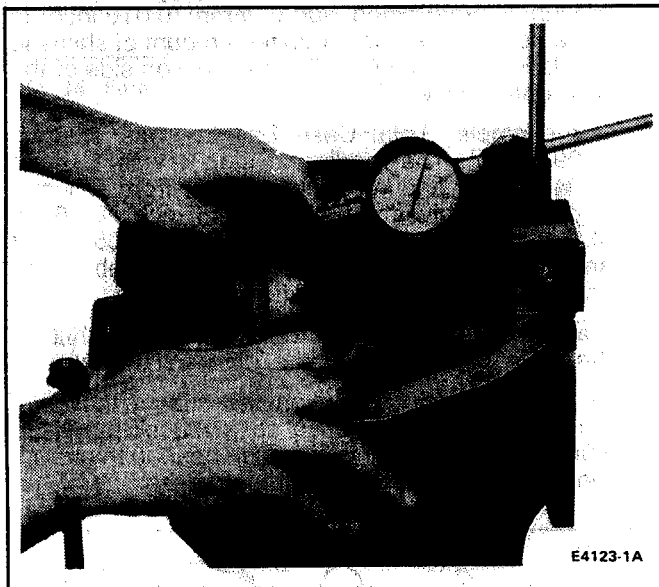

FIG. 42 Ring Gear and Backlash Check
16. Install the dial indicator on the case as shown in Fig. 42. Check ring gear and pinion backlash at three equally spaced points on the ring gear. Backlash tolerance is 0.13-0.23mm (0.005-0.009 inch) and cannot vary more than 0.08mm (0.003 inch) between the three points. If backlash is high, the ring gear must be moved closer to the pinion, by moving shims to the ring gear side from the opposite side. If backlash is low, the ring gear must be moved away from the pinion by moving shims from the ring gear side to the opposite side.